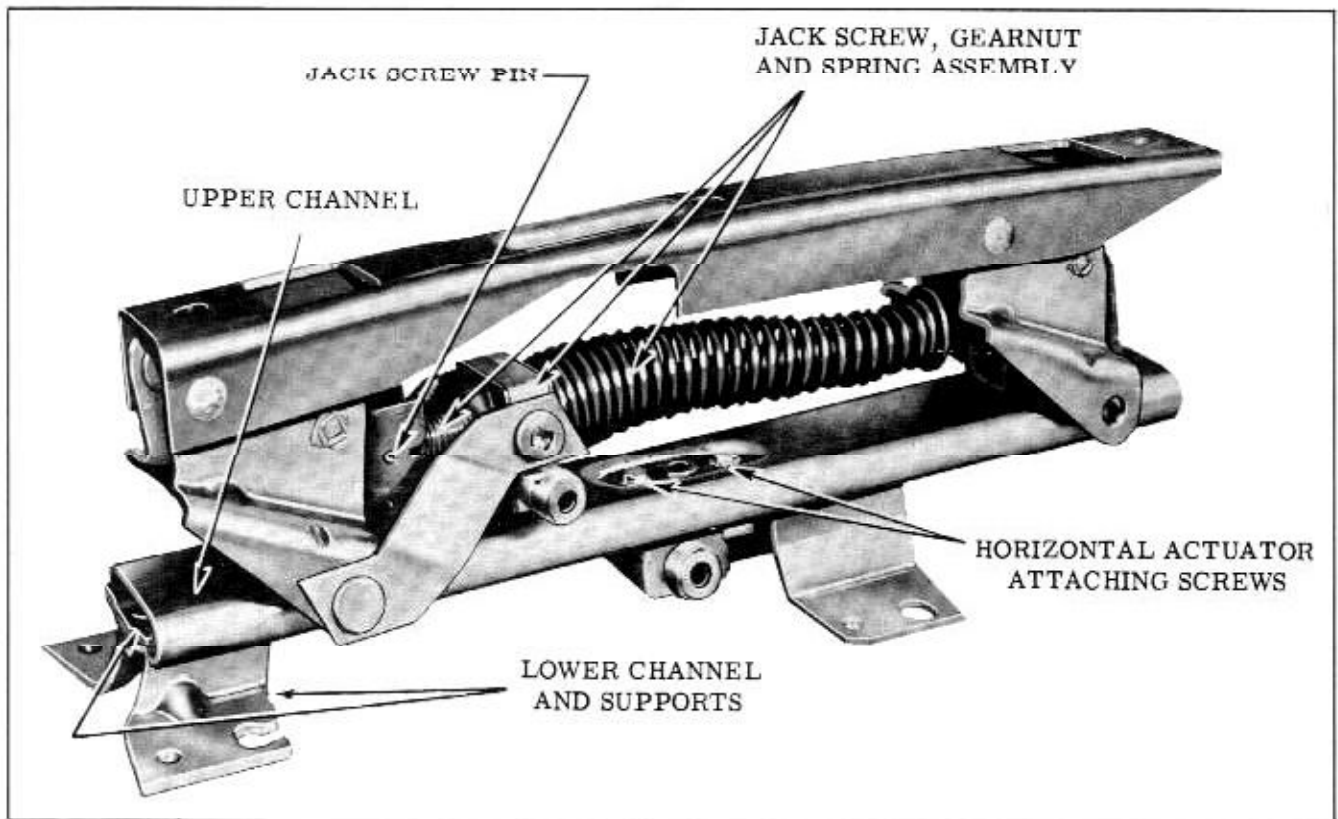

Fig. 17-69 Four-Way Seat Adjuster
3. Using a clutch type screwdriver, remove shoulder screws securing linkages to vertical gear nut. (Fig. 17-69)
4. Using a drift punch, carefully drive out jackscrew pin. (Fig. 17-69)
2. Remove screws securing horizontal actuator and remove actuator from seat adjuster. (Fig. 17-69)